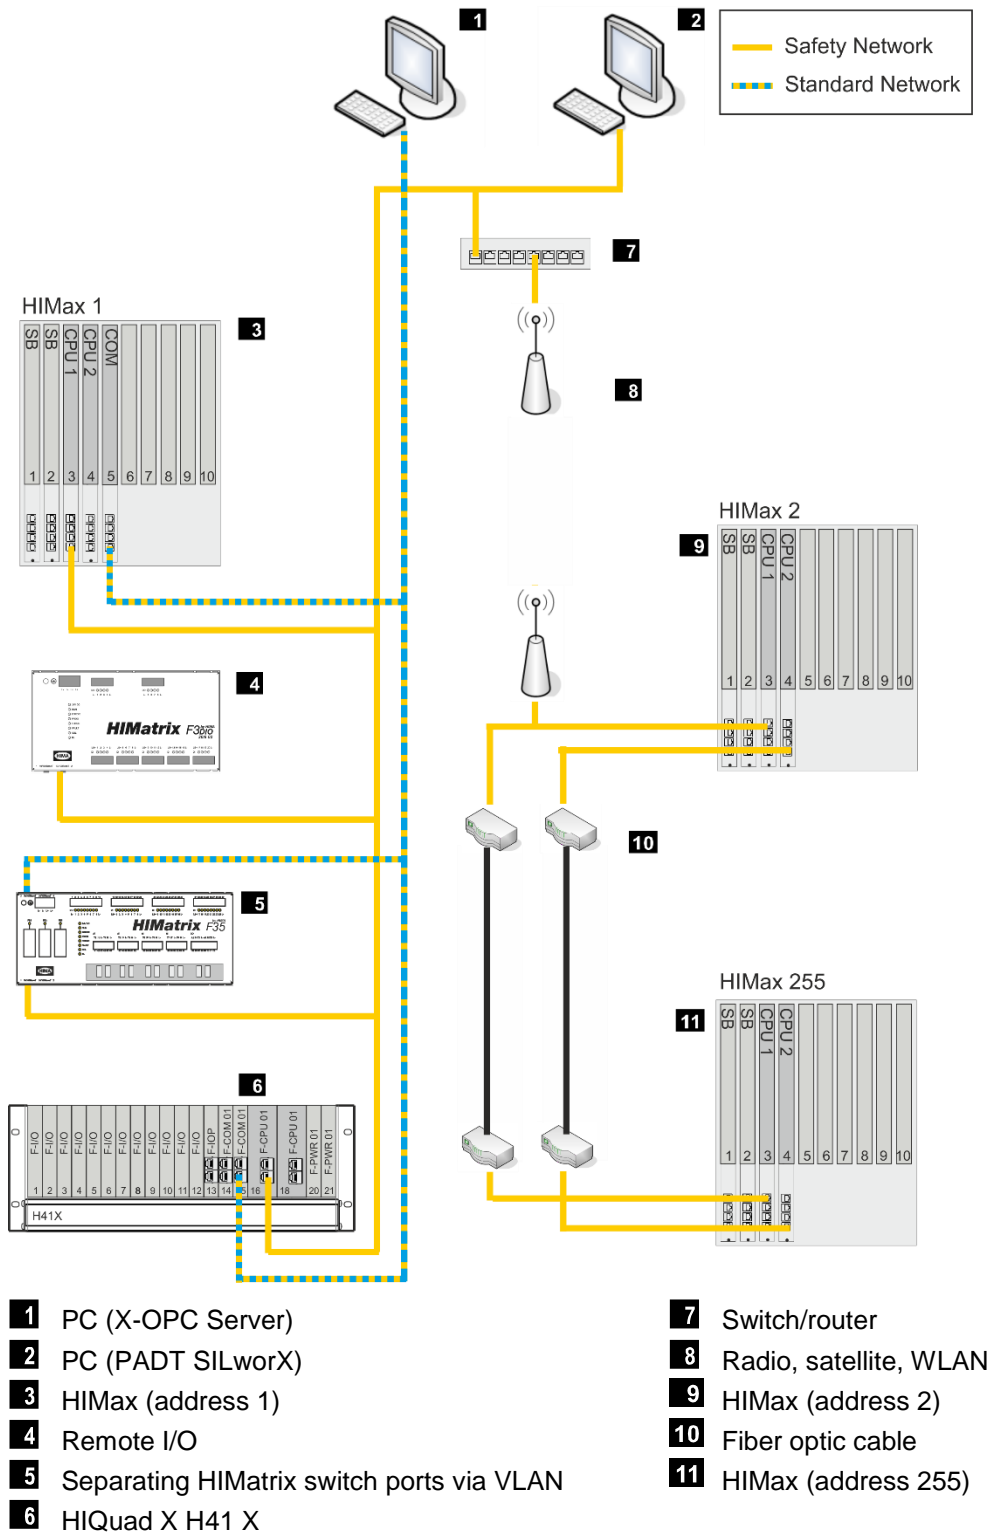

Figure 4: Flexible System Structure with safeethernet
**i** To reduce security risks, HIMA recommends setting up a safety network via the CPU modules and a separate standard network via the COM modules. The standard network is used to connect to non-safety components such as X-OPC Server, see Figure 4.